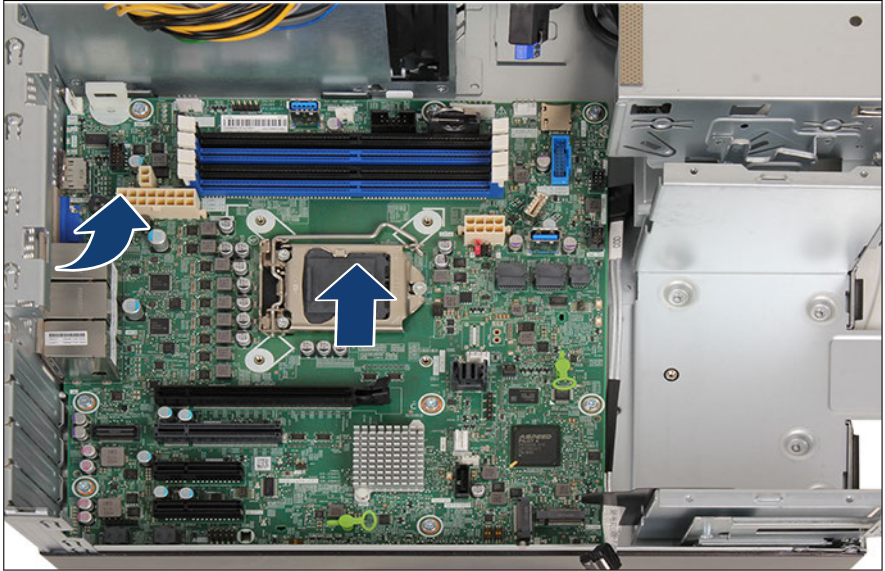

Figure 235: Removing the system board
- ▶ Insert the system board by holding it at a slight angle. Slide the connectors into the I/O panel, see Figure 235.